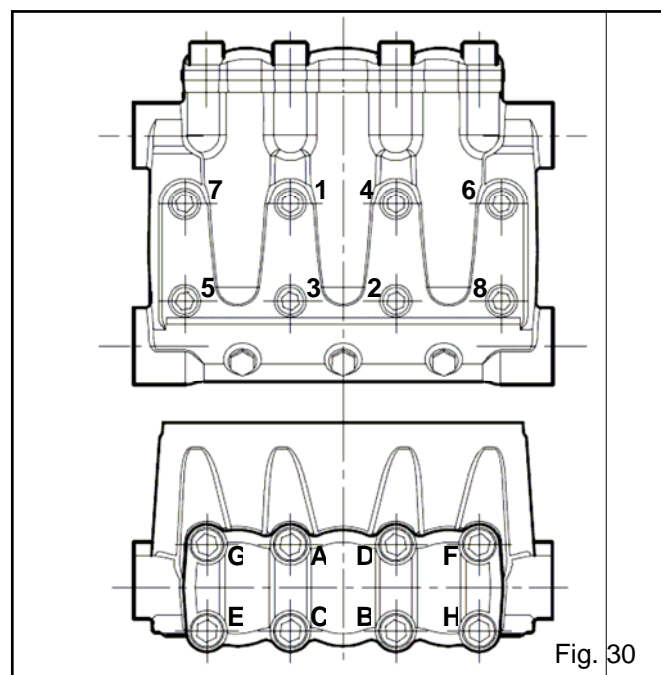

Fig. 30
** The head screws, exploded position 39, must be fastened using a torque wrench, lubricating the threaded stem and respecting the order of the scheme in fig.30.
*** The valve cover screws, exploded position 41, must be fastened using a torque wrench, lubricating the threaded stem and respecting the order of the scheme in fig.30.